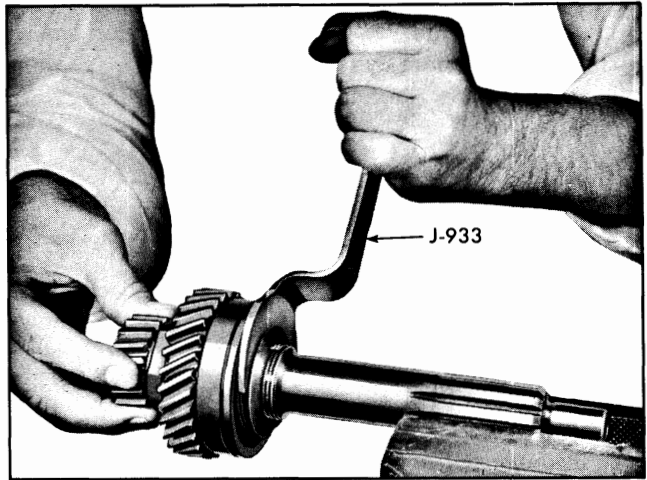

Fig. 7-23 Removing or Installing Oil Slinger
1. Place main drive (clutch) gear in a vise with soft jaws and, using tool J-933, remove bearing retainer nut and oil slinger (Fig. 7-23).
2. Install combination clutch bearing retaining nut and oil slinger on main drive (clutch) gear shaft (Fig. 7-23), drawing it up tightly with tool J-933.